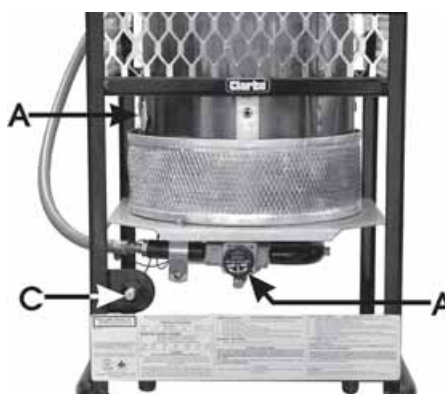

Fig.2
A Piezoelectric Igniter is positioned at the Pilot Light. When the Igniter button is depressed (C, Fig.2), a high intensity spark is generated, which ignites the gas. Heat from the flame is sensed by a Thermocouple, which is connected to the Flame Failure Valve. As the Thermocouple heats up, a low voltage is fed to the Safety Cut-Off Valve, causing the valve to open, so that after a short period, the Control Valve (see `Lighting the Heater on p8) may be released, and the pilot flame is established.
4. Press and hold the Control Valve IN, whilst repeatedly pressing the Piezo Electric starter (C, Fig.2) until the pilot light ignites. (The pilot light may be viewed through the window shown at 'A' Fig.2).